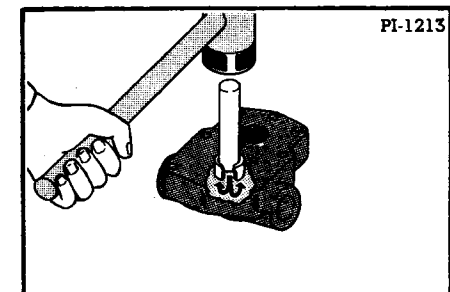

Fig. 138 Forcing out the Bearings
7. If the needle bearings must be replaced, it is usually possible to start them out of the bearing wells by using a piece of drill rod of shaft diameter. Fill the bearing with heavy grease and drive the drill rod into the bearing with a hammer. The rod acts as a plunger, and the grease forces the bearing up out of the bearing well (Figure 138). The drain holes in the bearing wells must first be plugged to make this process effective.